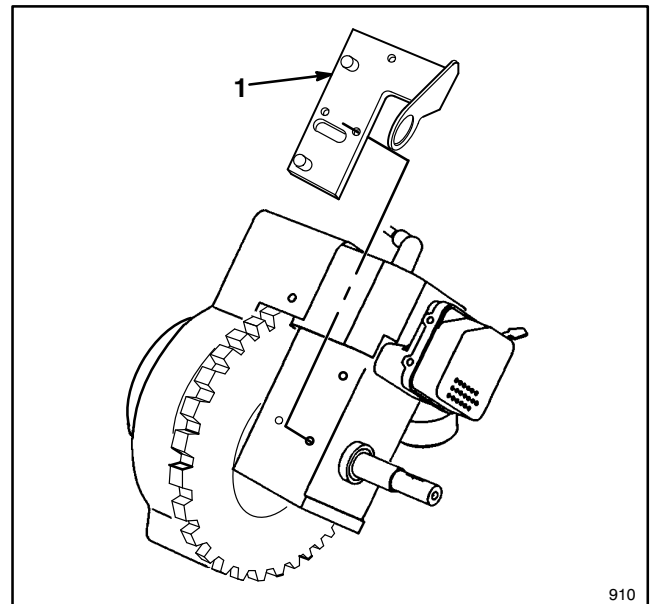

Figure 8
8. Install new motor mounting bracket (Fig. 8) with correct fasteners. For units with studs, you will need (2) two new nuts and a screw provided in kit. For units without studs, you will need (3) three new 1/4-20 screws provided in kit.